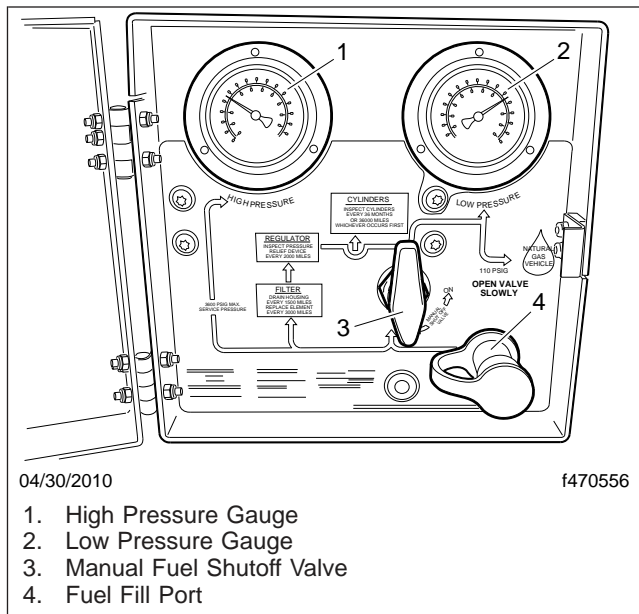

Fig. 21.10, CNG Fuel Panel
4. Inspect all plumbing components, including the fuel shutoff valve(s), primary and secondary relief valves, and the LNG vapor shutoff and excess flow valves, if equipped, for signs of damage or leaks. See **Fig. 21.9** or **Fig. 21.10**.